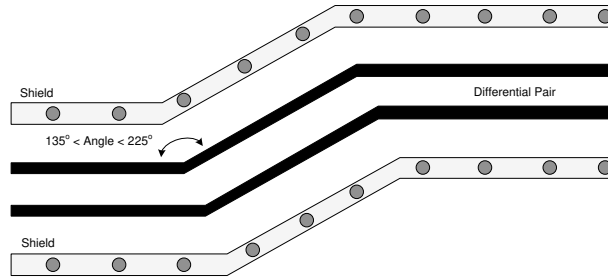

Figure 10-15. USB Routing Example
- Ensure that the bend angles associated with the differential signal pair are between 135° and 225°. (See Figure 10-15).